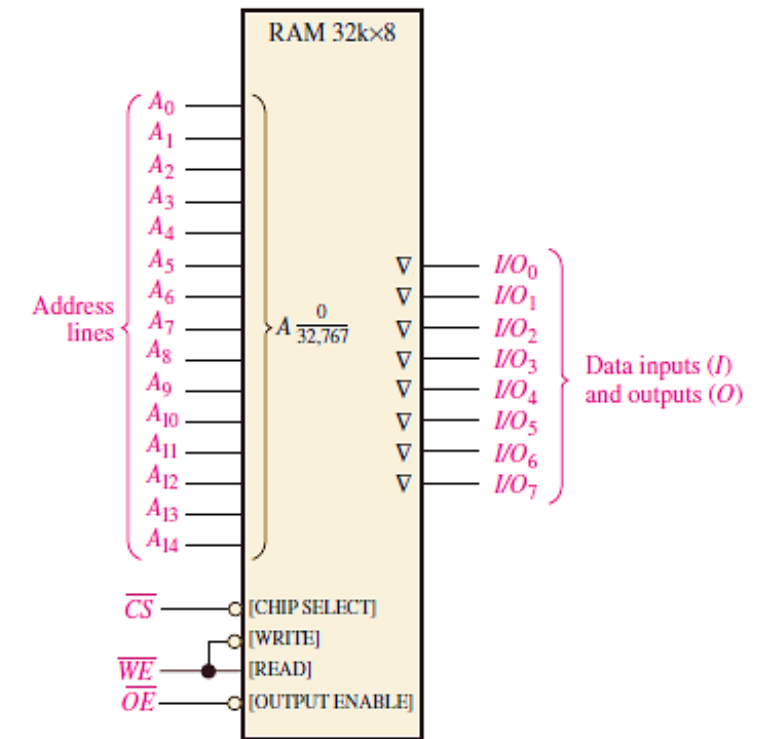

FIGURE 4 Logic diagram for an asynchronous 32k * 8 SRAM.
- ❑ An asynchronous SRAM is one in which the operation is not synchronized with a system clock. To illustrate the general organization of a SRAM, a 32k X 8 bit memory is used. A logic symbol for this memory is shown in Figure 4.
- ❑ HIGH (1), LOW (0), and HIGH-Z (open). Tri-state outputs are indicated on logic symbols by a small inverted triangle (◡), as shown in Figure 4, and are used for compatibility with bus structures such as those found in microprocessor-based systems.